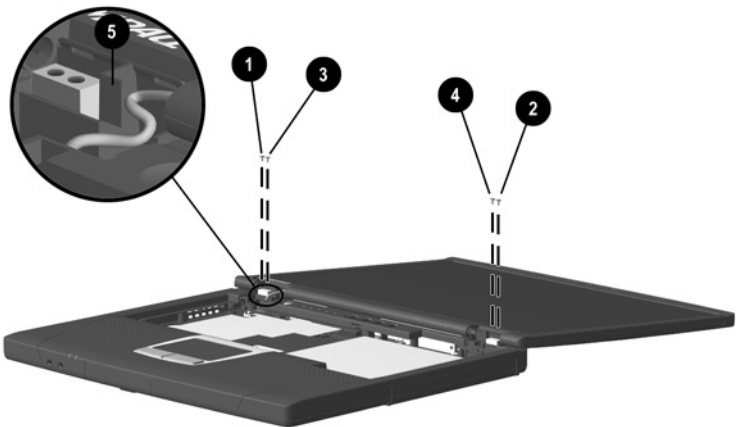

Figure 5-6. Installing the Display Screws
To ensure proper alignment of the display during replacement, loosely install the screws in the ①, ②, ③, ④ sequence indicated in Figure 5-6. Tighten the screws after all four have been loosely installed.